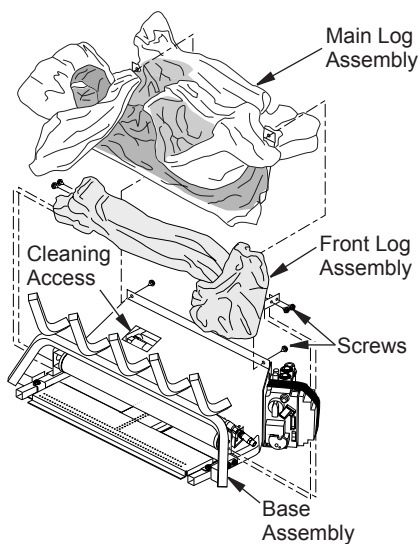

Figure 25 - Removing Front Log to Clean Front Burner
1. Remove two screws from back of unit that attach main log assembly to base assembly (see Figure 25).
2. Remove screws from left and right side of front log assembly to remove from base assembly (see Figure 25).
3. Inspect burner and primary air inlet holes on injector holder of each burner for dust and dirt (see Figures 25 and 26).